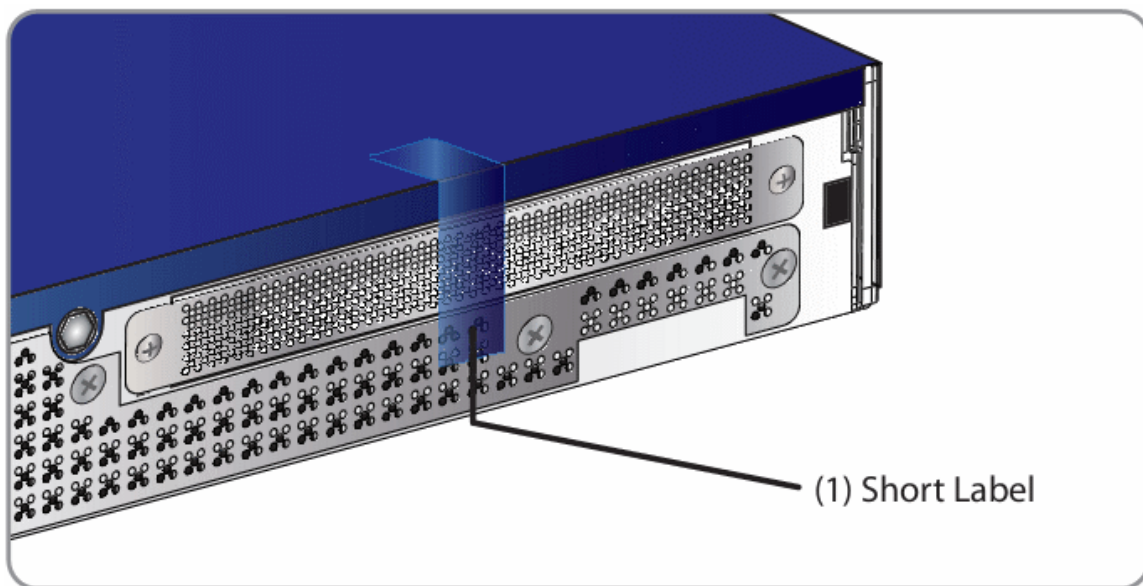

Figure 8 Tamper Evident Label Placement over the PCI Cover
3. Apply one (1) label vertically over a section of the rear baffle, across the center of the PCI cover, and over the top edge of the appliance as shown below in Figure 8.